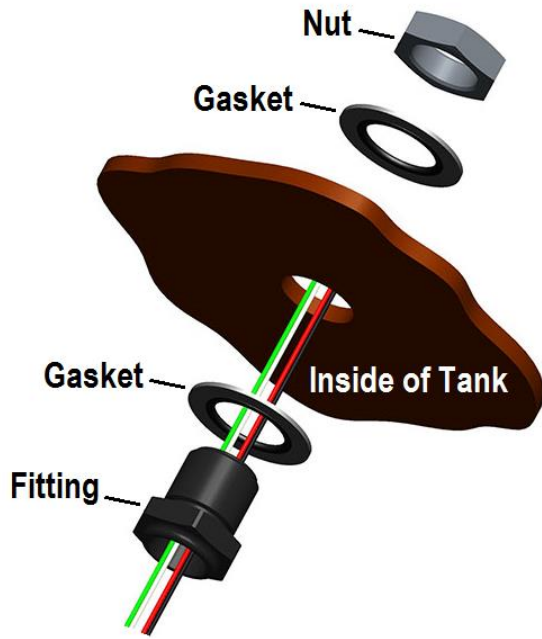

Figure 1
6. Put the bulkhead (including the gasket) through from the inside of the tank (**Figure 1**).